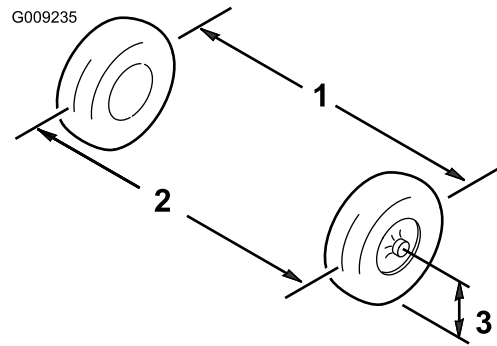

Figure 38
1. Measure the distance between both of the front tires at the axle height at both the front and rear of the front tires (Figure 38).